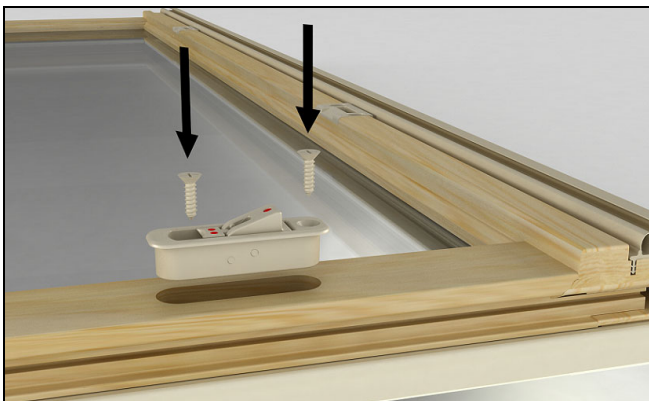

Figure 8
4. Remove the jig and clean debris and excess material. Install the window opening control device with the screws provided. See Figure 8.